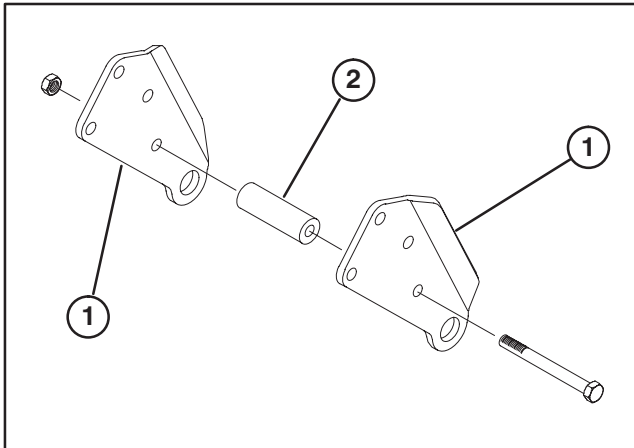

Figure 1
1. Loosely assemble rear pivot plates together with a pivot tube, 3/8-16 x 3-3/4" lg. capscrew and locknut, using holes shown in figure 1.